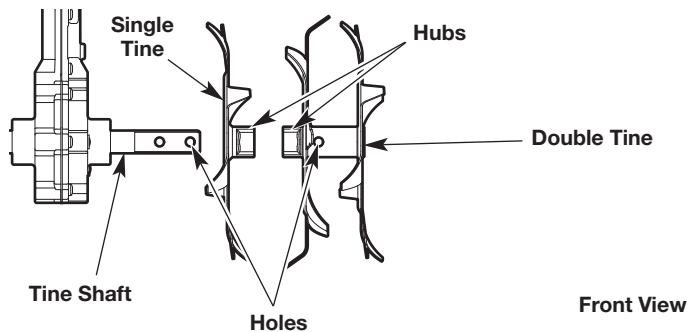

Fig. 14
2. Slide the new tines onto the tine shaft. The hubs must face toward each other (Fig. 14). Install the single tine first. Then install the double tine. Align the hole on the double tine with the hole on the tine shaft (Fig. 14).